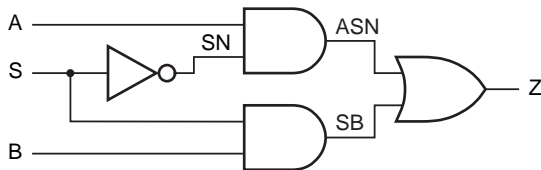

Figure 8: Gate-level logic diagram for multiplexer function.
- Going one step further, (1) can be converted into a set of logic gates, as shown in Fig. 8